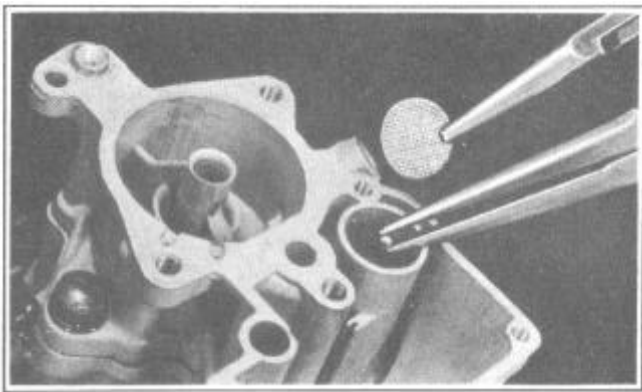

FIGURE 25
11. Separate body from flange assembly, Figure 25, and remove body flange gasket.